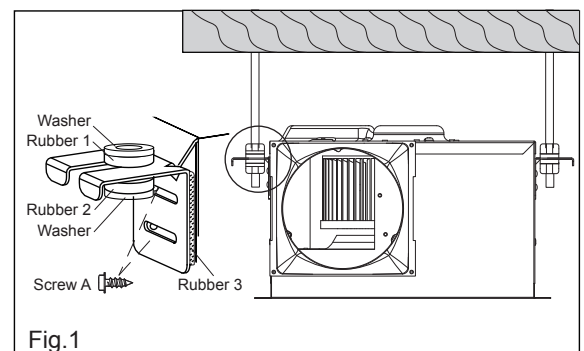

Fig.1
**Fan with no accessories:** Use an on/off switch to operate this fan. See "Connect Wiring" for details (Fig.1).
Before installation, need to assembly hanger bracket and rubber 3 to housing with screw A. Then install the rubber 1, rubber 2 and washer to hanger bracket. Use anchor bolts (not included) to secure housing. (Fig.1)
(Fig.1) Fan with no accessories